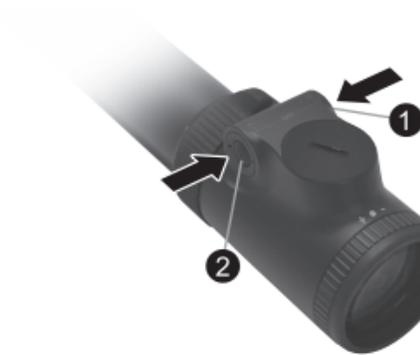

Fig. 3-5
Press the "+" illumination adjustment button ① or "-" illumination adjustment button ② to turn on the illumination (Fig. 3-5).